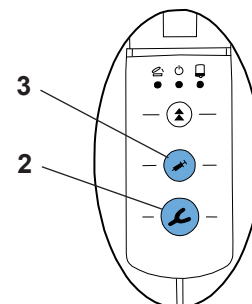

Fig. 8
- If a button is pressed, such as extrude (impression material (2, Fig. 8) or dispense (3, Fig. 8), without having previously selected a programme, the device will automatically activate the ST programme. The LED next to the ST key goes on.
- ⇒ Press and hold down the advance key (2) or (3) (depending on the desired speed or function):
- Impression tray (2), fast extrusion speed
- Dispenser (3), slow extrusion speed